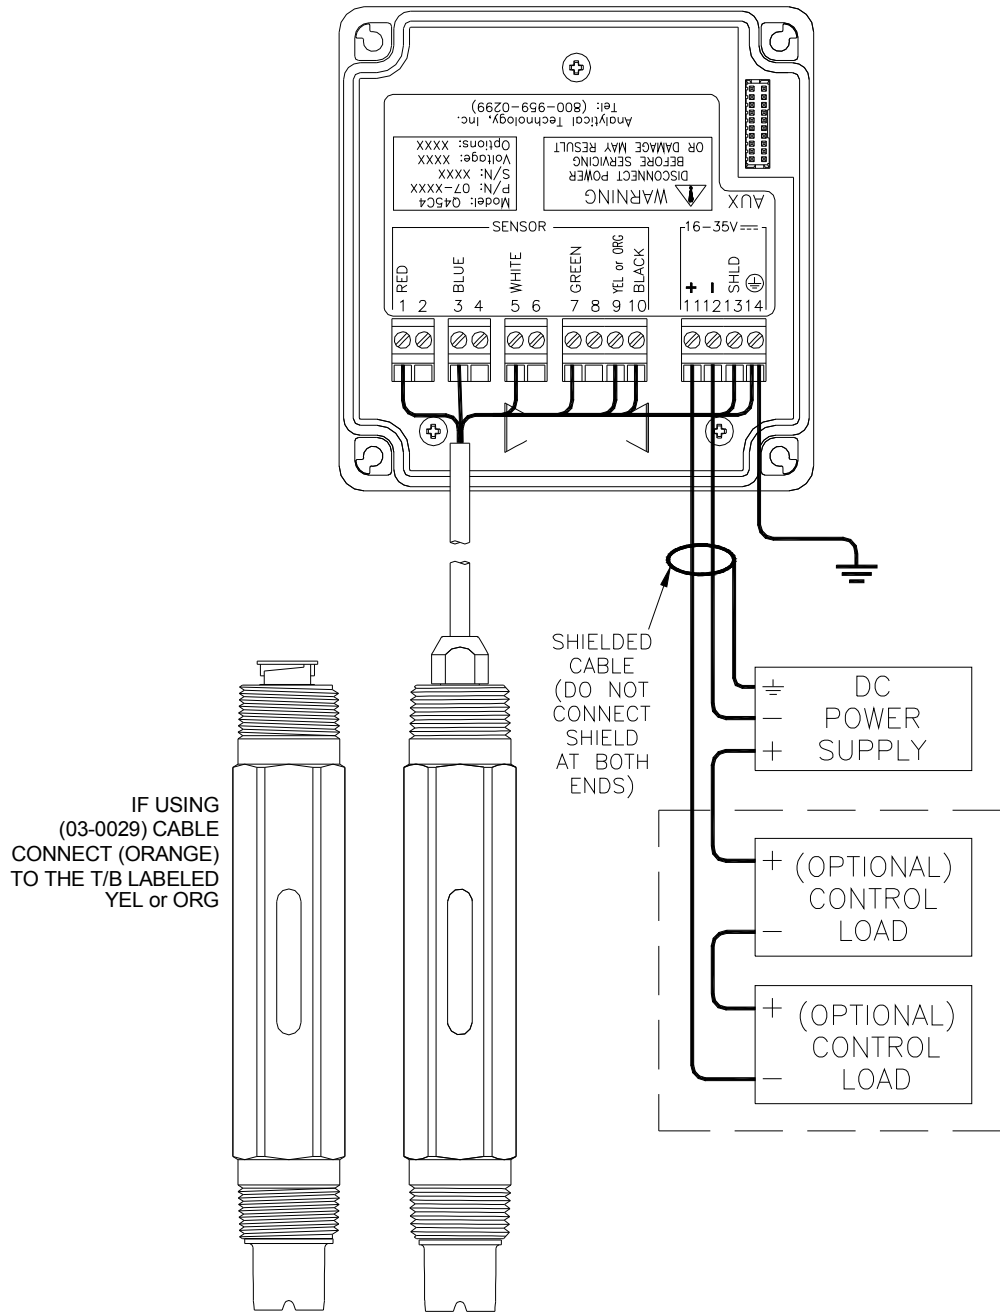

Figure 13 - Loop Power Connection
1. Use wiring practices that conform to all national, state and local electrical codes. For proper safety as well as stable measuring performance, it is important that the earth ground connection be made to a solid ground point see Figure 13 - Loop Power Connection
In the two-wire configuration, a separate DC power supply must be used to power the instrument. The exact connection of this power supply is dependent on the control system into which the instrument will connect. See Figure 13 - Loop Power Connection